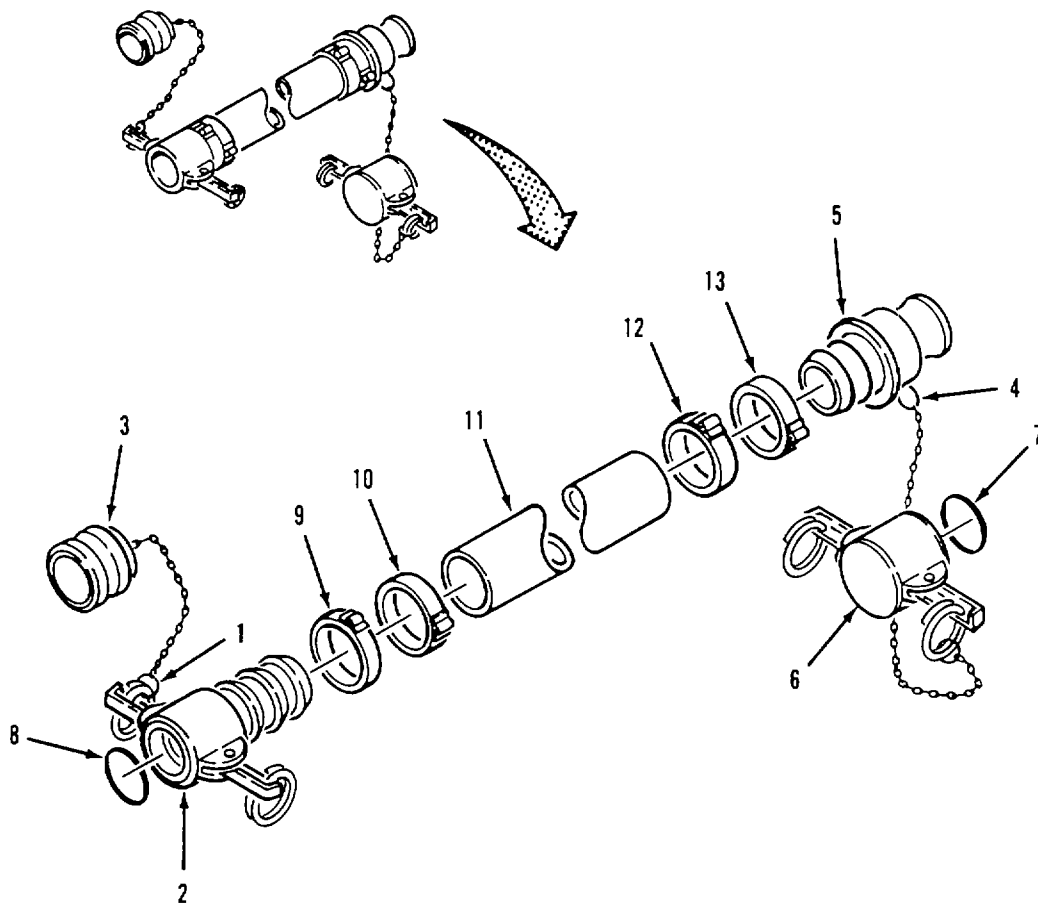

Figure 4-4. Discharge and Suction Hose Assembly.
- (14) Install gasket (8, figure 4-4) in female coupling (2).
- (15) Install gasket (7) in dust cap (6).
- (16) Connect split ring (4) to male coupling (5). Install dust cap (6) on coupling.
- (17) Connect split ring (1) to female coupling (2). Install dust plug (3) on coupling.
- (18) Install hose in water system (para 3-4b).
- (19) Startup water system (para 2-12c) and test repaired hose for leaks.